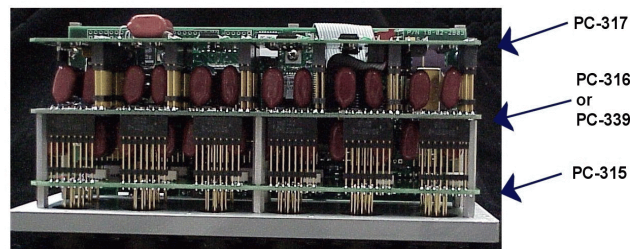

Figure 5.3a
- (1) Disassemble the module as described in **Section 5.1.2**.
- (2) Notice from the above figures (**Figure 5.3a** and **5.3b**) that the three PC boards (315, 316 or 339, and 317) are held together by standoffs and gold connector pins. If there is a need to take the boards apart, ensure that the gold connector pins do not get bent.
- (3) Carefully remove the ribbon connection from the PC-317 to the PC-280 Microprocessor board. Remove the six (6) 4-40 Phillips-head screws from the standoffs. Gently remove the PC-317 board by pulling straight up on the gold connector pins. If the PC-317 multiplexer board is suspected of malfunctioning, it must be returned to the factory, since there are no field replaceable parts on the board.
- (4) Unscrew the standoffs between the PC-316 (or PC-339) and PC-315 boards and gently remove the PC-316 (or PC-339) board by pulling straight up on the gold connector pins. If the PC-316 (or PC-339) Signal Conditioning board is suspected of malfunctioning, it must be returned to the factory, since there are no field replaceable parts on the board.
- (5) The PC-315 Connector Interface board is soldered to the top plate and cannot be removed in the field. If the PC-315 board is suspected of malfunctioning, the entire top plate must be returned to the factory.
- (6) After replacing malfunctioning printed circuit boards, reassemble the module in reverse order from that used in taking it apart. Ensure the ribbon connection from the PC-317 board to the PC-280 Microprocessor board is connected properly and that it is not crimped. **Pin 1 of the ribbon cable has a red stripe while pin 1 on the PC-280 connector will contain a square solder pad.**
- (7) Carefully replace the Viton gasket around the top plate and replace the twelve (12) Phillips-head screws that secure the top plate to the scanner housing. Tighten the screws. Do not over-tighten; 7-9 inch-pounds should be sufficient.
- (8) Test your scanner to ensure proper operation.